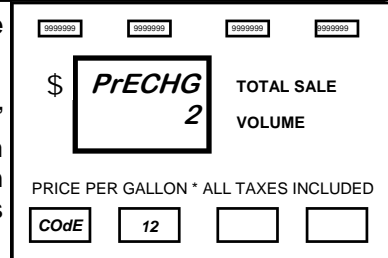

Figure 12.1
1. After the Manager’s Mode has been accessed, press the number 1 and 2, then the **MODE** button on the keypad. The price display shows the dispenser is in Menu Code 12. See Figure 12-1.